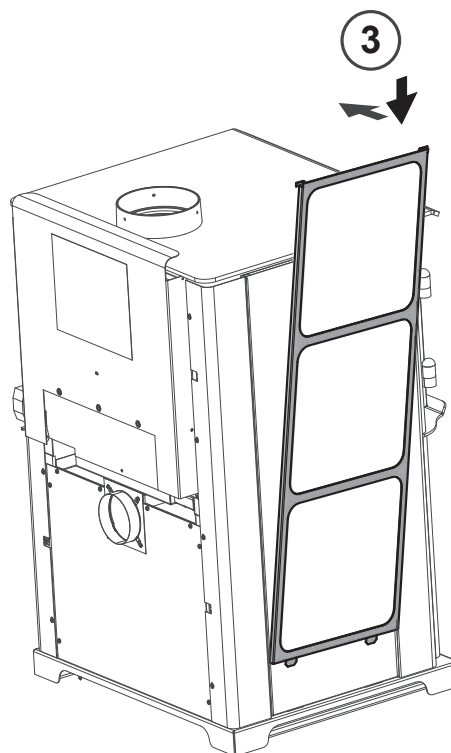

Figure 17.5
4. Reattach tile frame **Figure 17.5**.